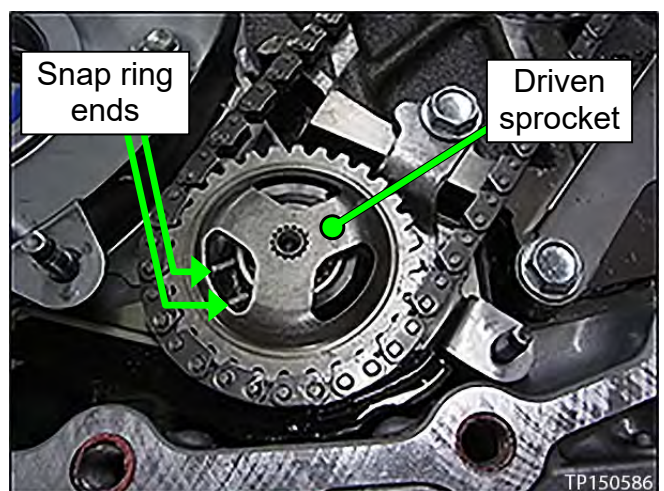

Figure 79
14. Expand the snap ring with a suitable tool, and then push down on the driven sprocket until it bottoms out (see Figure 79).